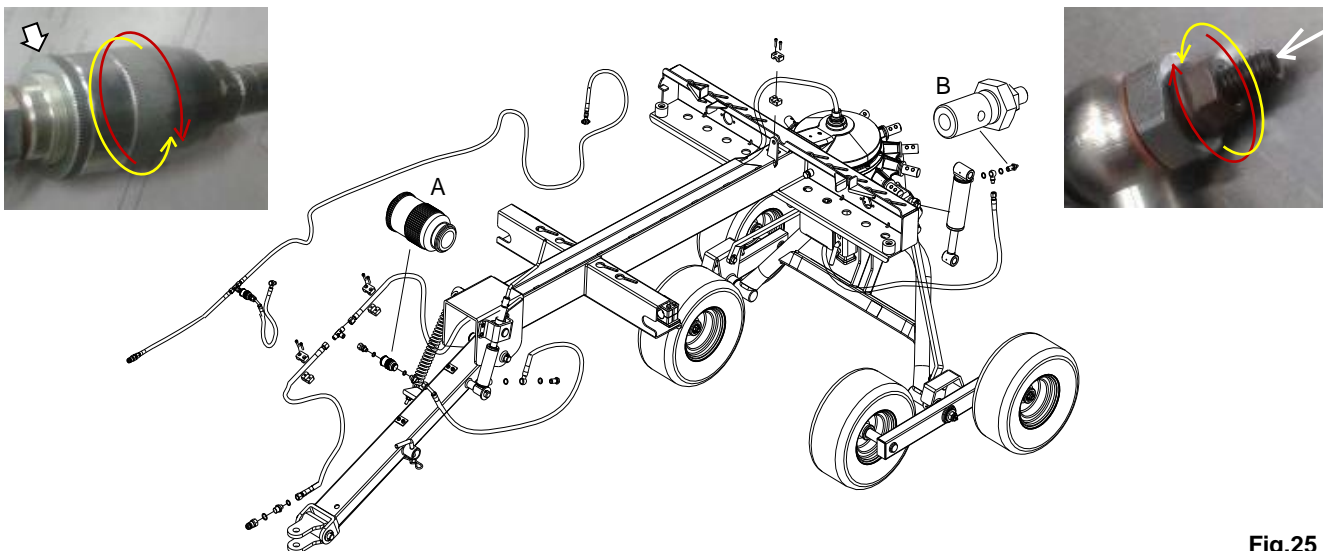

Fig.25
A. Flow adjusting valve of frame (fig.25): if the lifting of the frame did not result parallel to the ground, adjust the valve by manually rotating the knurled part:
B. Flow adjusting valve of rotor (fig.25): if the lifting of the rotor results too much fast or too much slow. Adjust the valve by using an Allen key: